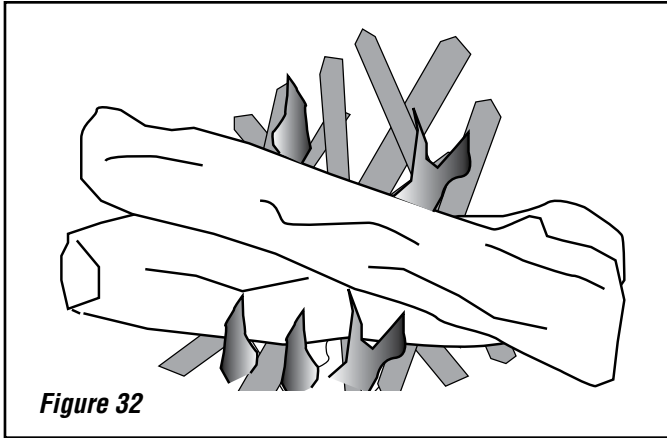

Figure 32
7. For best results, use smaller pieces of wood to get the appliance temperature very high before loading larger wood for sustained burns. If necessary, crack the door to allow ignition of the fuel charge. Do not leave the unit unattended while the front door is slightly open. Now you can add larger pieces of wood and after several minutes of high burn, set the left control for the desired heat output. Check the exhaust in about 15 to 20 minutes (see **Figure 32**). Large amounts of smoke indicate an improper burn setting (either too high or too low). Adjust and recheck in 5 to 10 minutes.